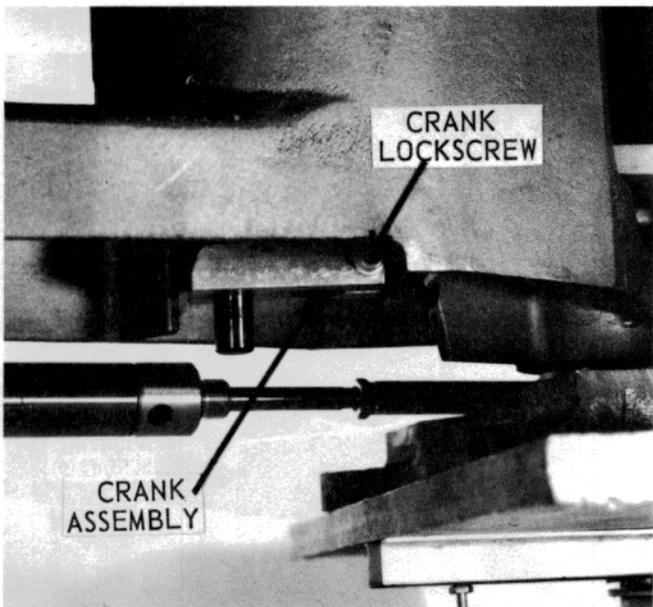

Figure 34 – Mainshaft Crank
- 1.2.11 Loosen the mainshaft crank lock screw and remove the crank assembly and key (see Figure 34).